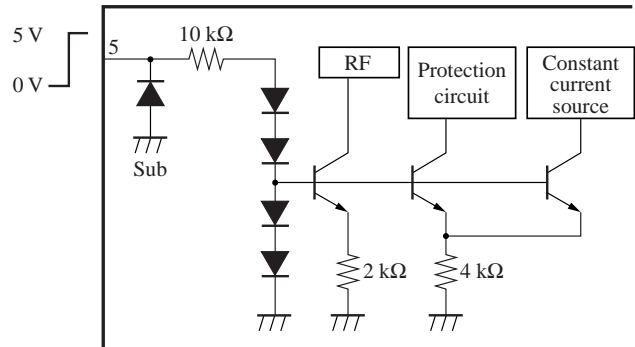

Figure 1
- (1) The power can be turned on or off by making pin 5 (standby terminal) high or low.
- (2) The standby terminal has threshold voltage of approx. 2.1 V, however, it has temperature dependency of approx. $-6 \text{ mV}/^\circ\text{C}$. The recommended range of use is shown in Table 1.
- (3) The internal circuit of standby terminal is as shown in Figure 1. When the standby terminal is high, the current approximately expressed by the following equation will flow into the circuit.